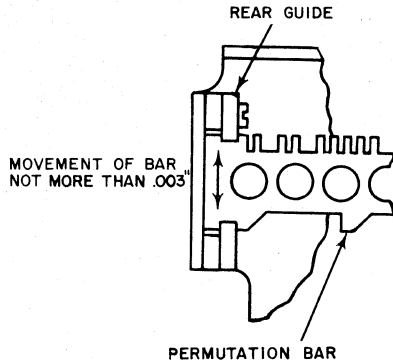

Figure 4
1. Be sure that the permutation bars are straight, free in the guides, and installed in the correct slots. Loosen the rear guide mounting screws and adjust the guides so the permutation bars operate freely and have no more than .003" play front-to-rear (Figure 4).